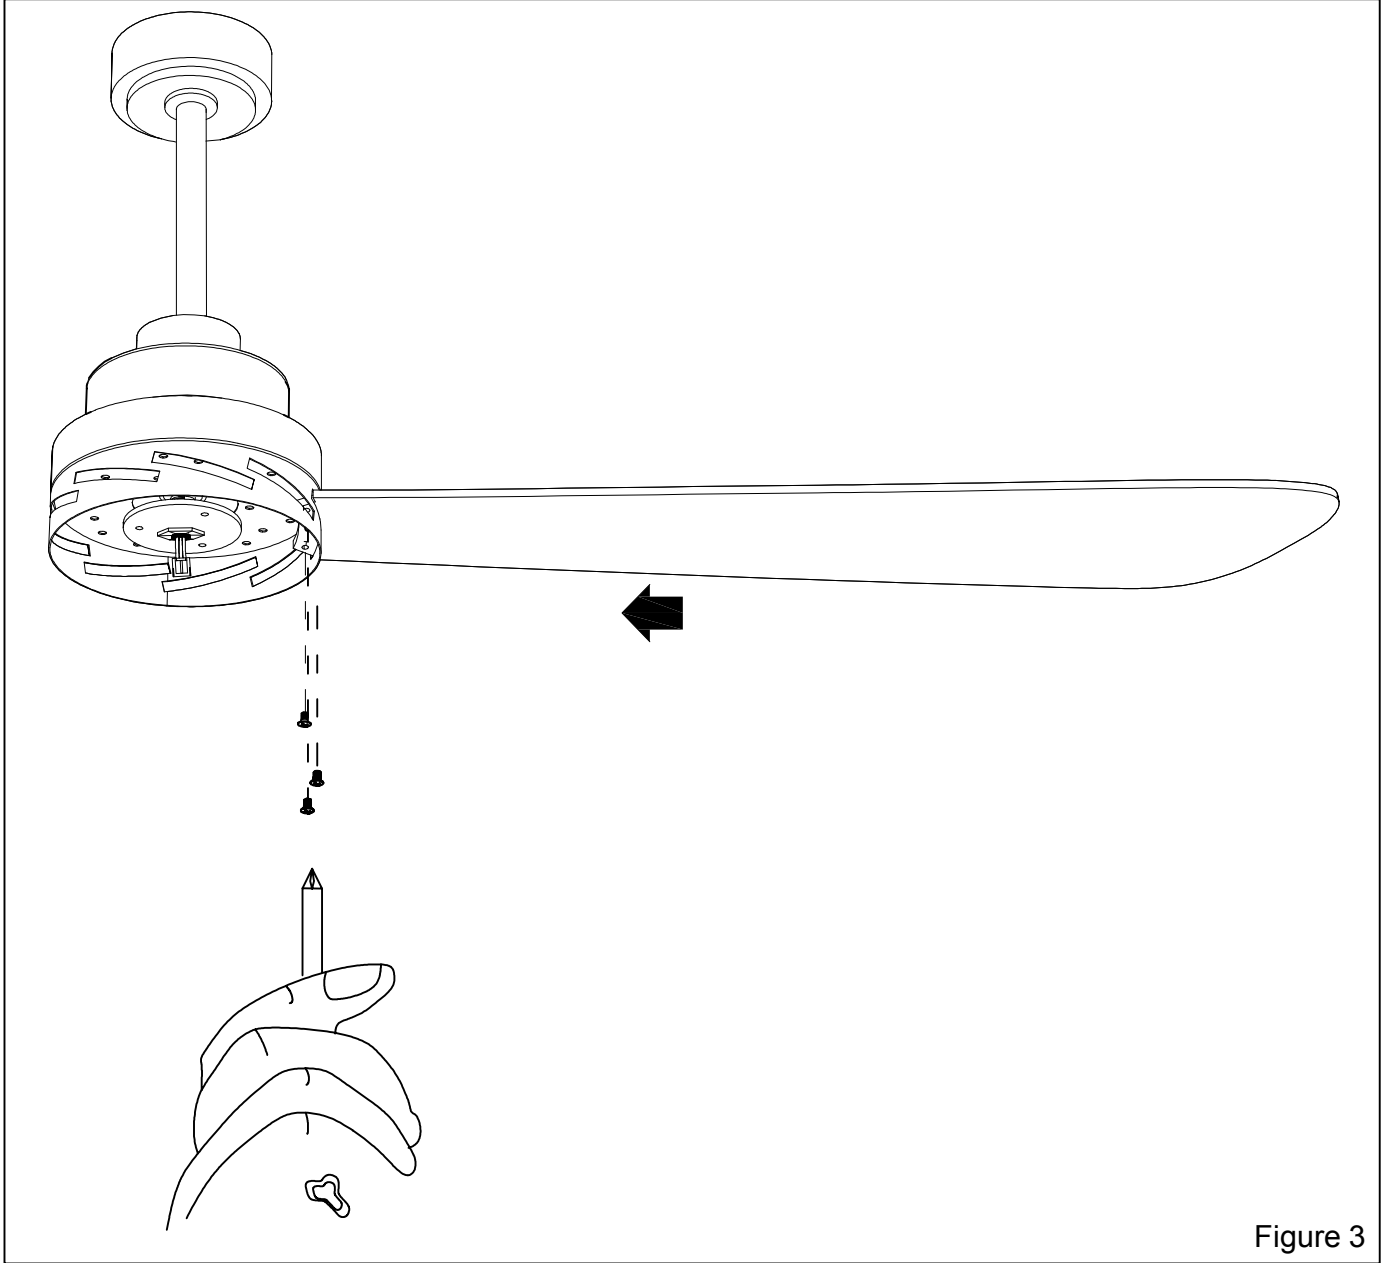

Figure 3
- Fix the fan blades on the motor with screws in turn.(Figure 3)